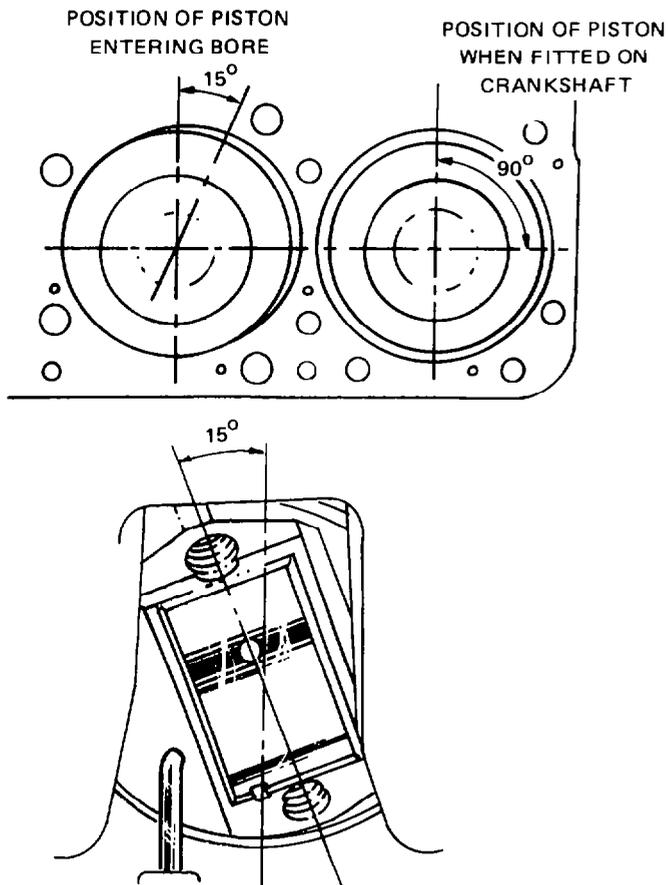

Fig. 80 — Offsetting Piston and Connecting Rod
1. In order not to damage the piston oil cooling nozzles, rotate the piston approximately 15° so that the big-end will clear the nozzle (see fig. 80).